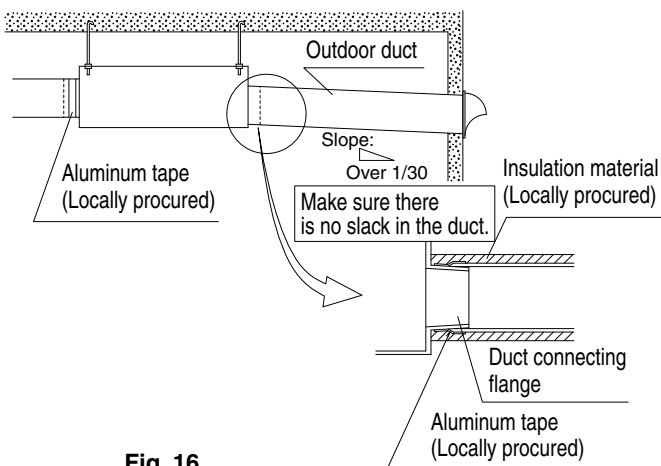

Fig. 16
- To prevent air leakage, wind aluminum tape round the section after the duct connecting flange and the duct are connected. (Refer to Fig. 16)
- Install the two outdoor ducts with down slope (slope of 1/30 or more) to prevent entry of rain water. Also, provide insulation for three ducts (Outdoor ducts and Indoor supply air duct) to prevent dew condensation. (Material : Glass wool of 25 mm thick) (Refer to Fig. 16)
- Using flexible or silent ducts can be effective in reducing the air discharge sound of the supply air to room (SA). Select materials keeping in mind the fan strength and operating sound of the unit. Consult your local dealer for selection.
- Set the pitch between the exhaust air outlet (EA) and the outside air intake (OA) to 3 times the duct diameter.